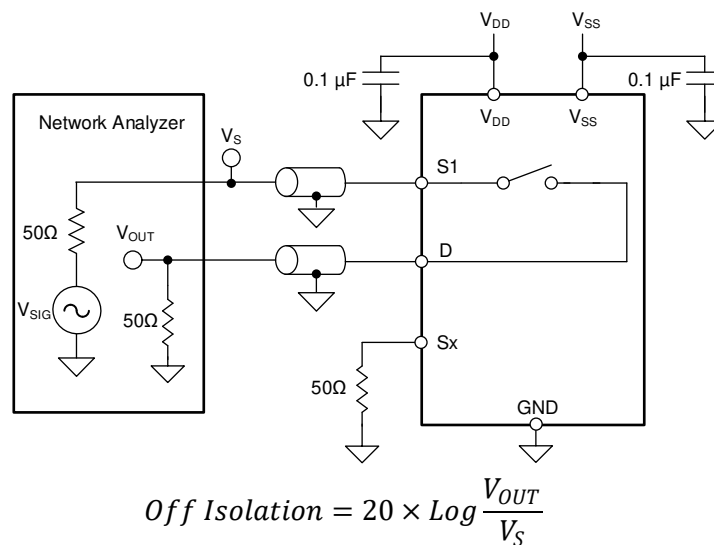

Figure 7-10. Off Isolation Measurement Setup
Off isolation is defined as the ratio of the signal at the drain pin (D) of the device when a signal is applied to the source pin (S_x) of an off-channel. Figure 7-10 shows the setup used to measure, and the equation used to calculate off isolation.